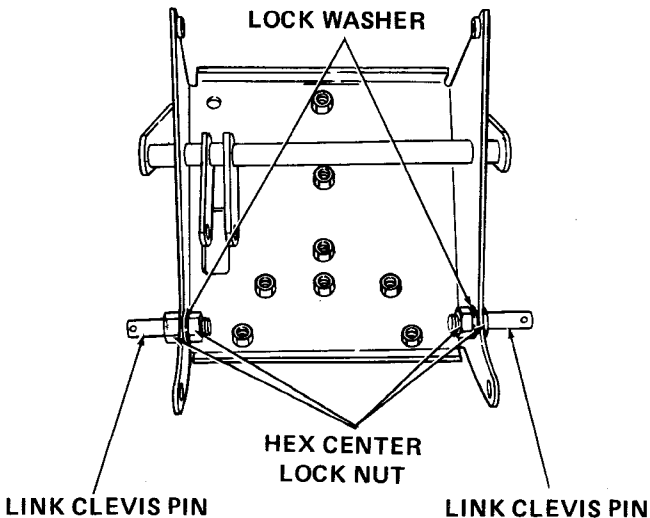

Figure A-7
- b. Insert threaded ends of link clevis pins (C) into sides of 3-point hitch plate assembly and secure with lock washers (D) and hex center lock nuts (E). Refer to Figure A-7.